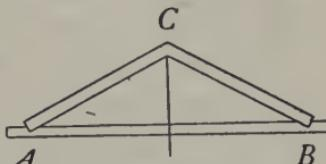

FIG. 71.—A truss.
11. A truss (see Fig. 71), carries a load of 1000 lbs. at C. Find the forces acting along AC, BC, and AB. If AC and BC are each 12 ft. and AB 20 ft., which of these forces are tensions and which are pressures?